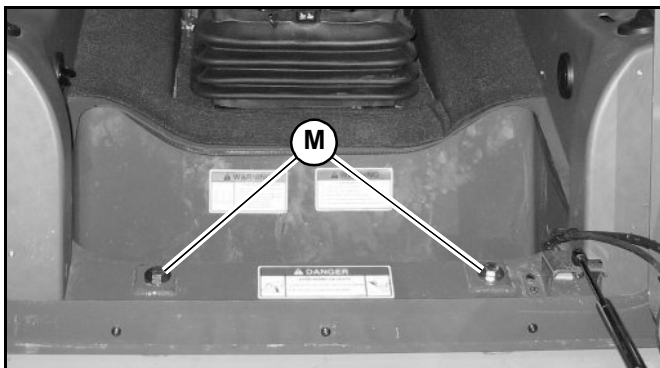

Fig. 111 – ROPS/FOPS Anchor Fasteners
Always secure the ROPS/FOPS to the chassis with anchor bolts and washers (M, Fig. 111) before driving or using the machine.
2. Remove anchor bolts and washers (M, Fig. 111) securing the front of the ROPS/FOPS to the chassis.